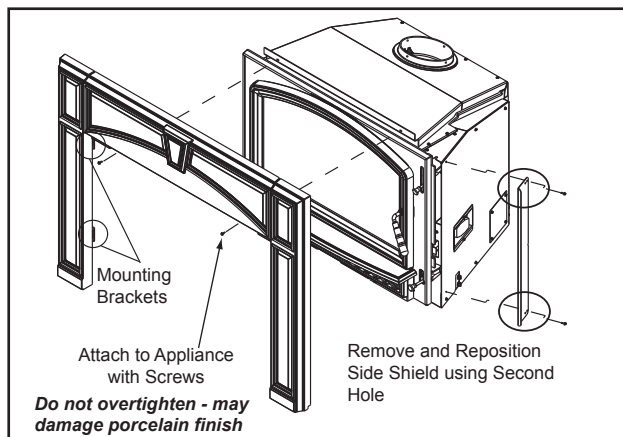

Figure 24.2
5. In order to get a tight seal for the surround, you must reposition a side shield. There are two holes on the shield and it will come from the factory secured in the first (left) hole. Remove the shield and re-install using the second (right) hole. **Figure 24.2.**